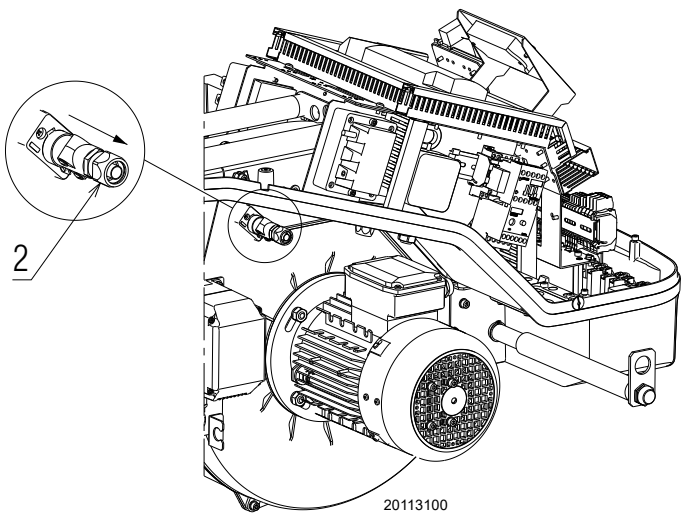

Fig. 52
- extract the UV sensor 2)(Fig. 52);